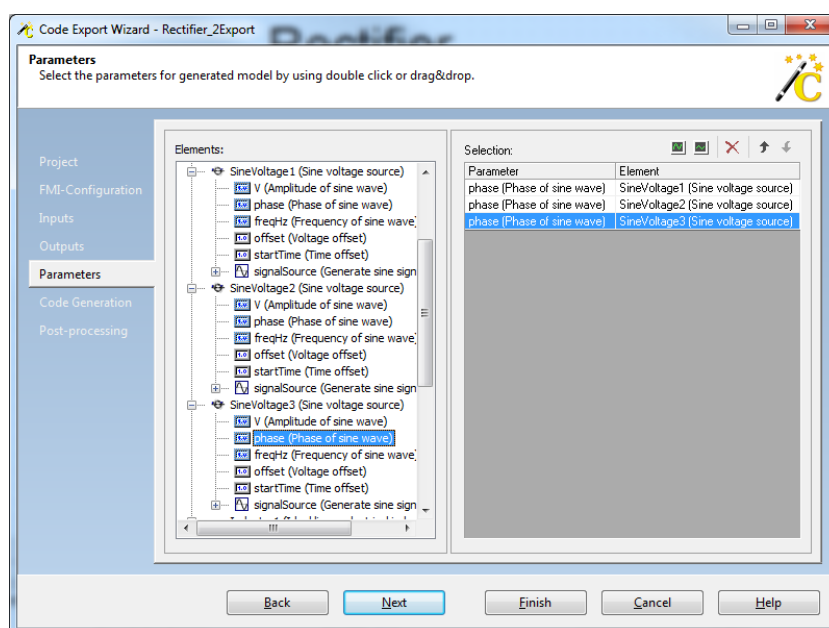

Figure 4: Properties page of Code Export Wizard.
- The parameter window allows you to define user-defined parameters of the FMU. As shown in Figure 4, choose the “phase” attribute of “SineVoltage1”, “SineVoltage2”, and “SineVoltage3”. Hit “Next”.